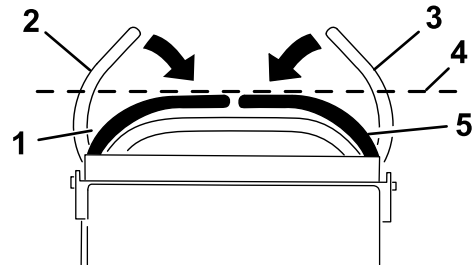

Figure 67
3. Push the motion-control levers down out of the NEUTRAL-LOCK position (Figure 67).
4. Check if the right motion-control lever aligns horizontally with the left motion-control lever (Figure 67).